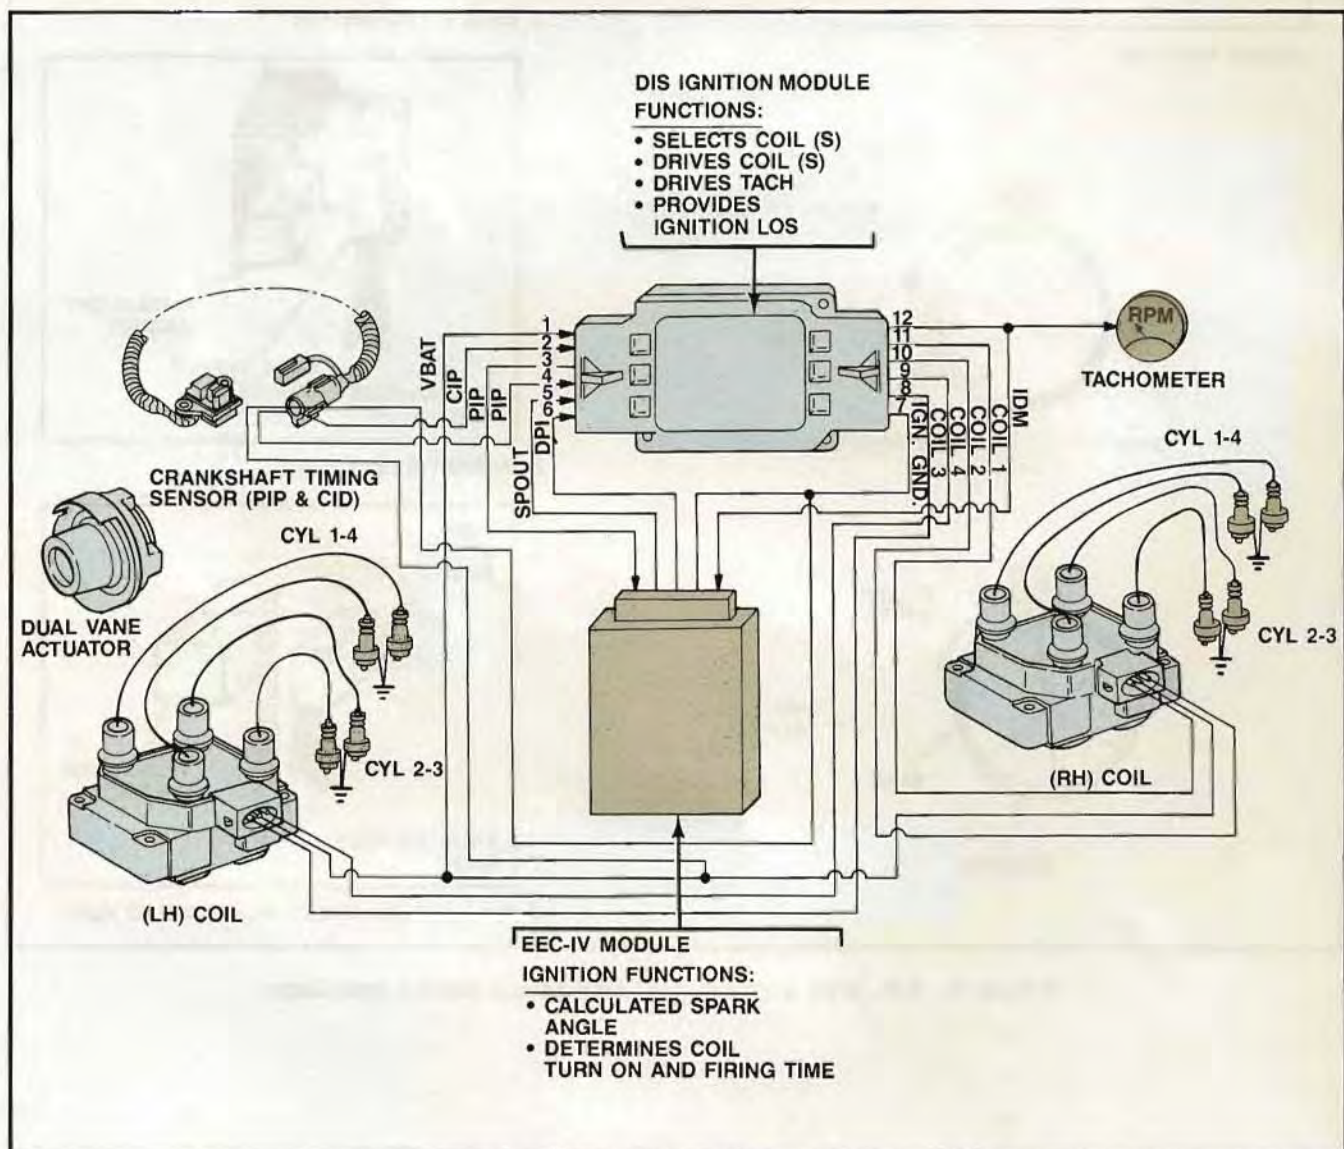

Figure 3. 2.3L Dual Plug Distributorless Ignition System (DIS)
- There are some differences between DIS systems on car and truck engines. These differences will be discussed in detail in the Engine Controls book. Also, there are training materials available on the DIS system, DIS Components and Operation and Technician's Video Reference Guide, Order No. 2105-003-PCB. Figures 3, 4 and 5 show system schematics of the 2.3L DP, 3.0L SHO, and the 3.8L S/C Distributorless Ignition System.